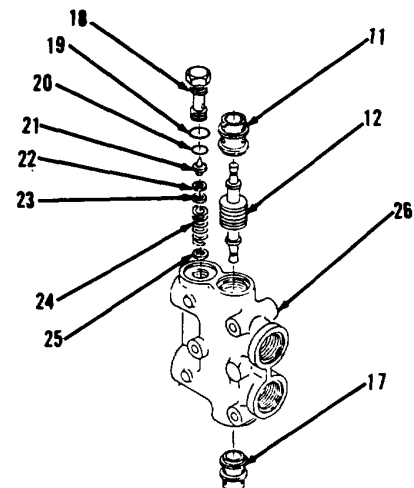

Figure 10-75.
1. Install four washers (25), spring (24), four shims (23), shim(s) (22), valve (21), new preformed packings (20 and 19) and plug (18) in body (26, Figure 10-75).